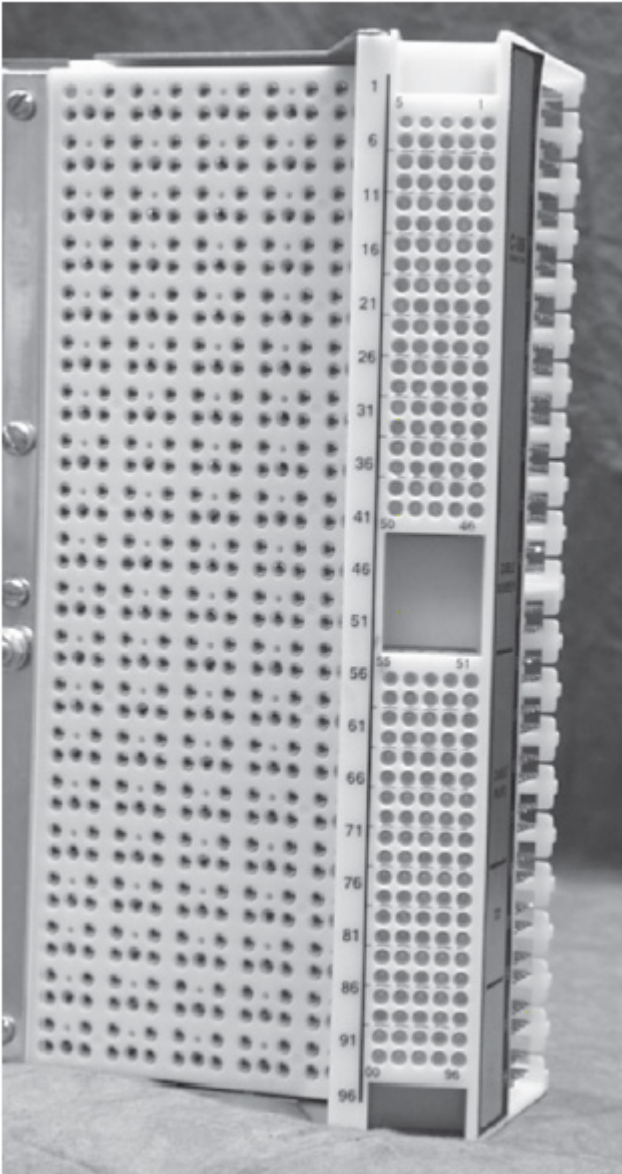

Figure 18
13.2 Test points are connected internally to the OP terminal field pins, and, subsequently, to the outside plant cable, with a separate connection for the tip and ring of each pair. Every five terminal pairs are marked in black-1,6,11,etc.- along the left edge of the test field. Terminal pairs are numbered from right to left (5,4,3,2,1). The upper pin of the pair is the tip connection; the lower pin is the ring connection (Figure 18).